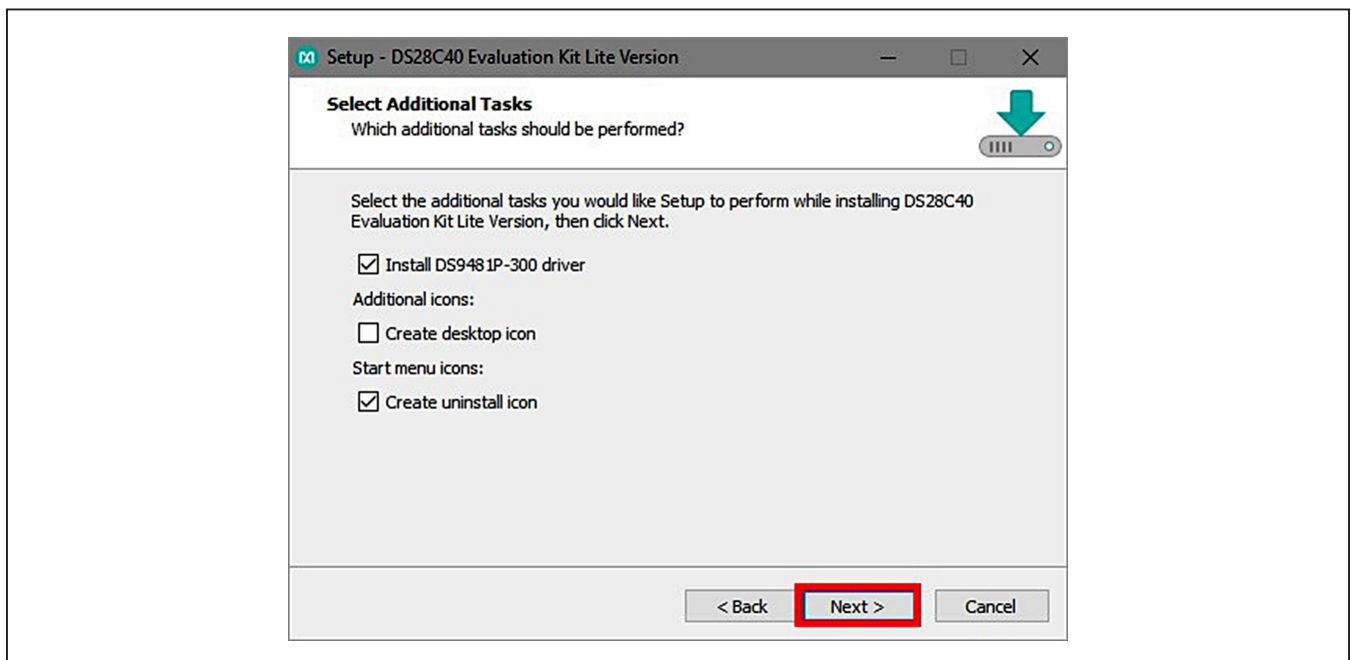

Figure 5. Select to Install the Driver
- 6) Unplug any Maxim adapter and click on **Next** (Figure 5) with the default settings checked. This action installs the DS9481P-300 driver that is needed to communicate through the USB by a virtual COM port.